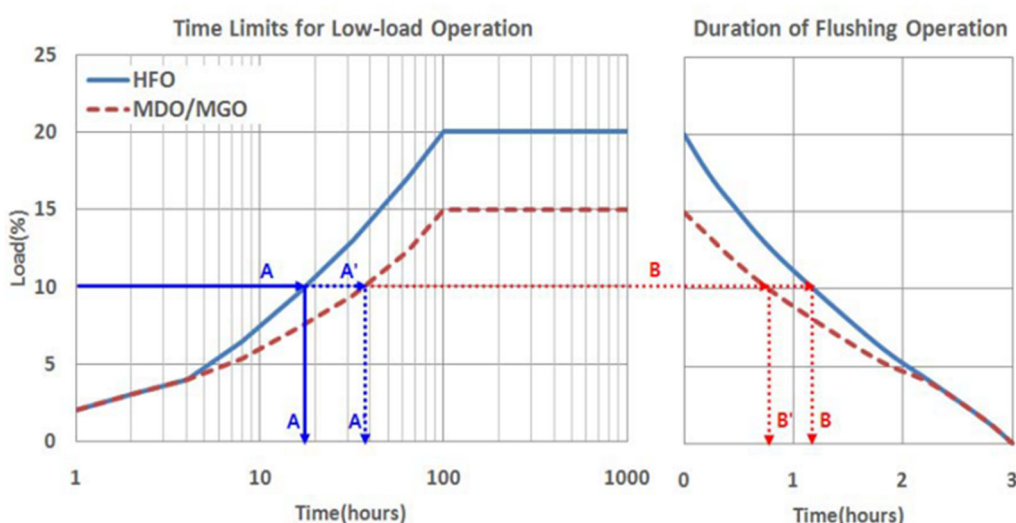

Figure 5.1 Time limits for low load operation
- ✓ Below 15 % load operation : load up over 70 % load at every limited time at corresponding load in Figure 5.1.
- ✓ Below 20 % load operation : load up over 70 % load at every limited time at corresponding load in Figure 5.1.
Duration of flushing operation (See Figure 5.1)